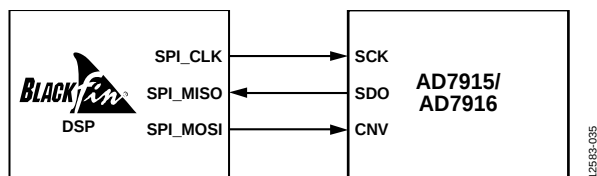

Figure 46. Typical Connection to Blackfin SPI Interface
- in chain mode if SCK is high during the CNV rising edge (see Figure 46).
The AD7915/AD7916 can easily connect to a Blackfin® DSP SPI or SPORT. The SPI configuration is straightforward using the standard SPI interface, as shown in Figure 46.